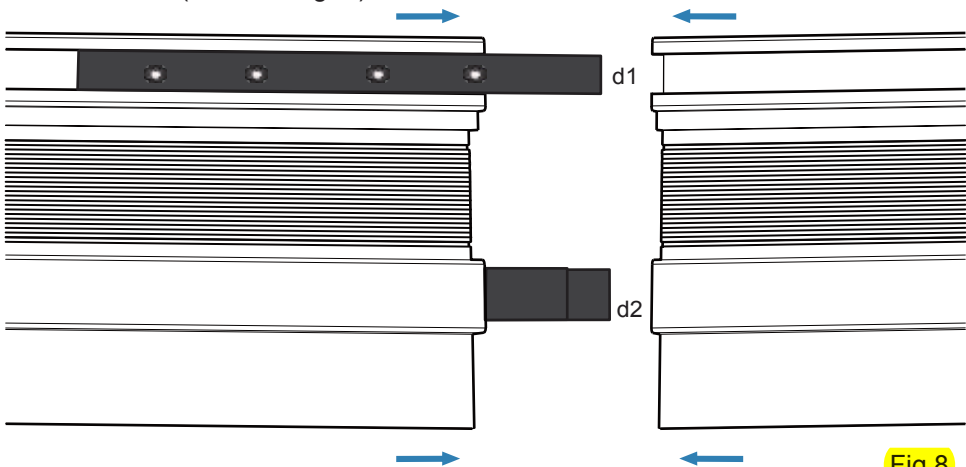

Fig. 8
7. Guide the free ends of the two track connectors into the clamp channels of the second track. (Refer to Fig. 8)